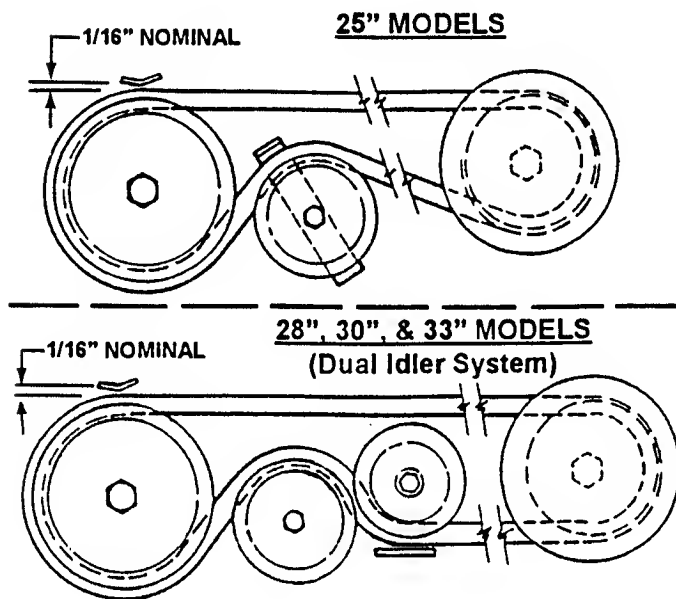

FIGURE 4.25
9. Adjust belt guide. See Figure 4.25 for proper belt-to-belt guide clearances.